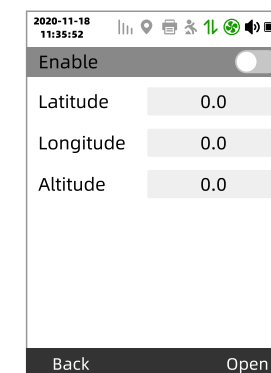

Figure 39
5.7.6.4 GPS: relevant operations for GPS positioning (as shown in Figure 39).